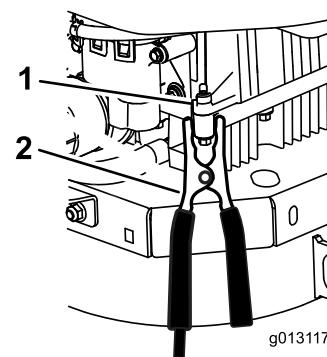

Figure 48
- Make the final connection on the **engine block** (not on the negative battery post) of the machine with the discharged battery, away from the battery, and stand back (Figure 48).